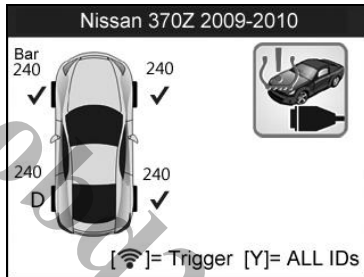

Figure 4.20
- 4) Follow the same process in **4.1 TPMS Sensor Check** to enter the activation screen. Use the **UP/DOWN** scroll button or **LEFT/RIGHT** scroll button to select the **TPMS Relearn** function. (Figure 4.20)